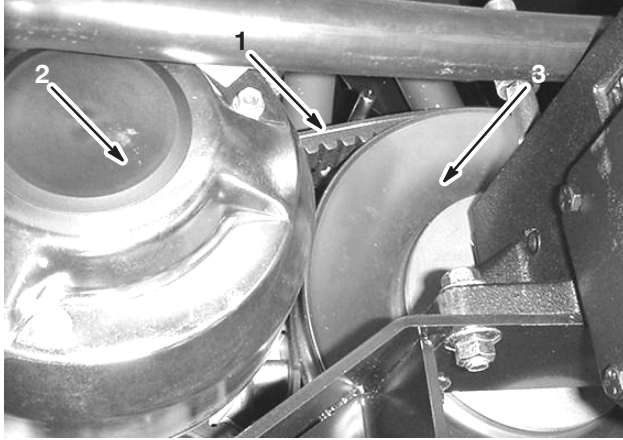

Figure 53
1. Rotate and route the belt over the secondary clutch (Fig. 53).
2. Remove the belt from the primary clutch (Fig. 53).
3. Place the new belt over the primary clutch (Fig. 53).
4. Rotate and install it over the secondary clutch (Fig. 53).